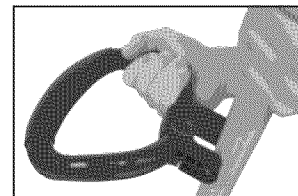

Figure 11 - Placing handle onto shaft
2. Place the handle on the trimmer/edger shaft between the rear handle and shaft collar. Snap handle onto shaft (see Figure 11).